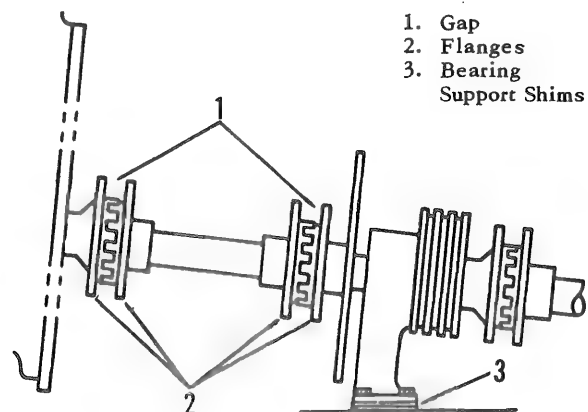

Figure 4-15. Alignment of Sections I and II of Tail Rotor Drive Shaft
- e. Measure gap (1, figure 4-15) across flanges (2) at four places 90-degrees apart with micrometer. Record these measurements.
- g. Maximum difference between any of the eight measurements must not exceed 0.032 inch. Necessary vertical adjustment may be made by shimming at (3) under bearing support for section II of drive